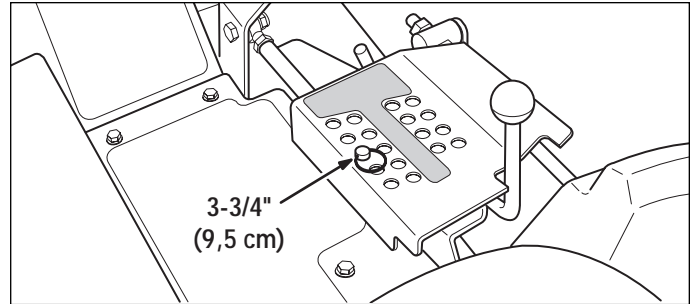

Figure 36. Deck Height Pin Position
2. Install the cutting height adjustment pin in the 3-3/4" (9,5 cm) position. See Figure 36.